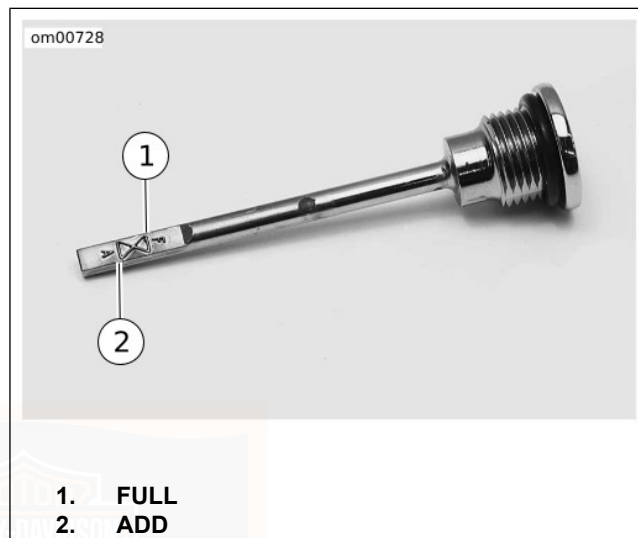

Figure 51. Transmission Filler Plug/Dipstick Lubricant Level
2. See Figure 51. Remove the threaded filler plug/dipstick.
1. See Figure 51. Remove the threaded filler plug/dipstick.